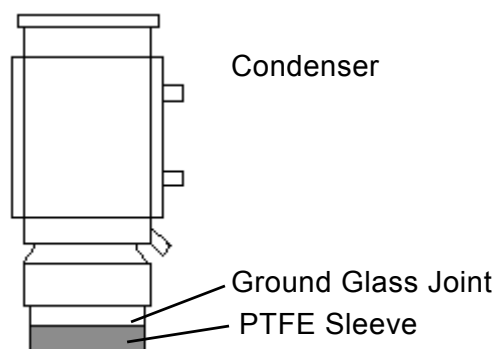

Figure 15. PTFE Sleeve on Condenser
- 4 Repeat this procedure to add a sleeve onto the other cell cap and onto both condensers as shown in Figure 15 on page 29.